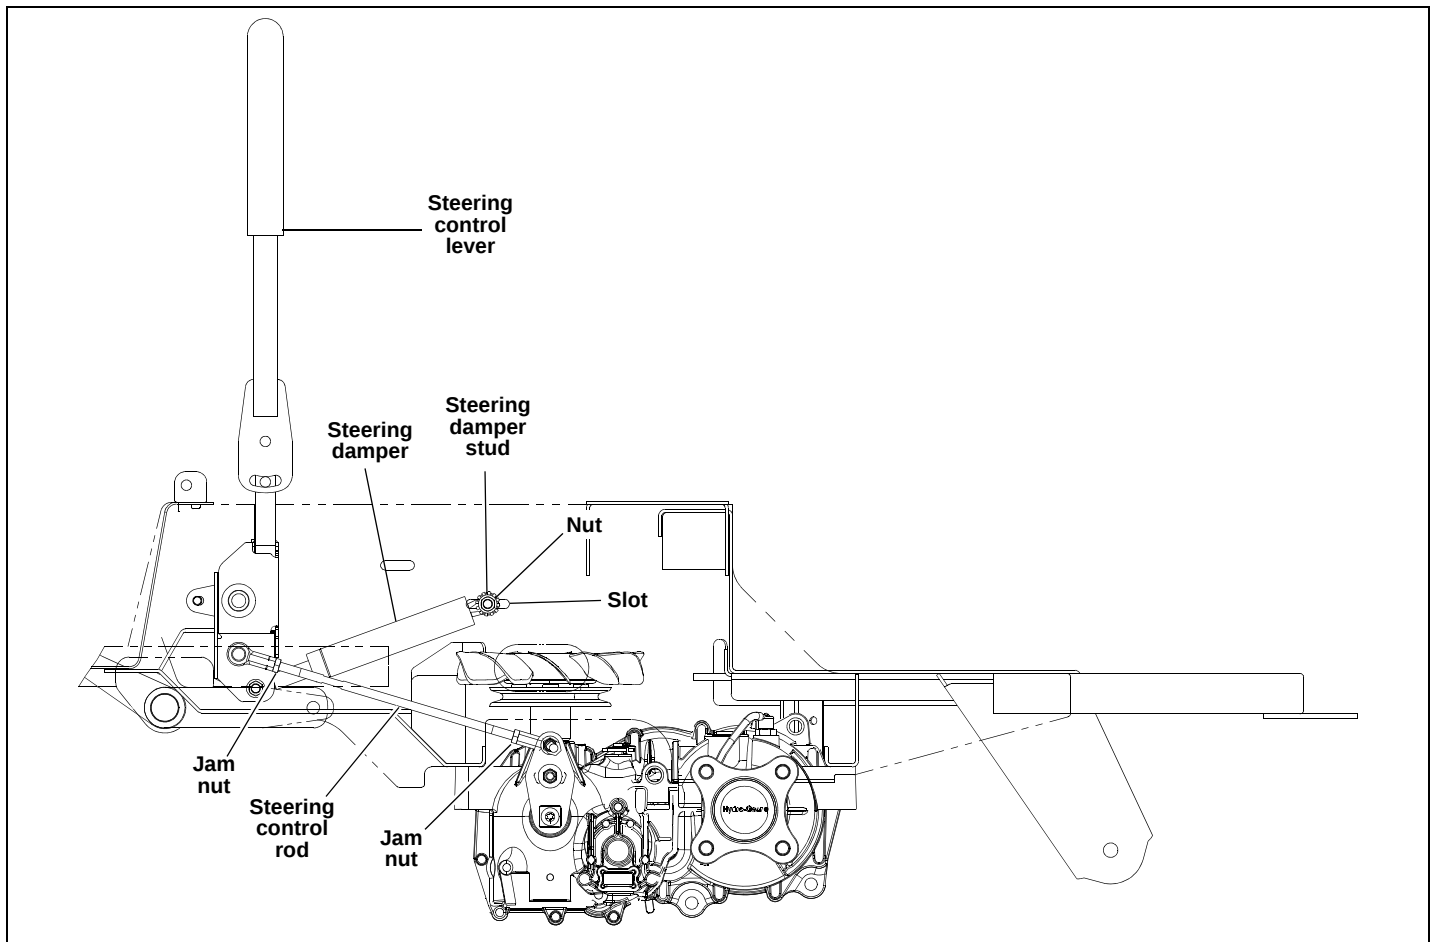

Figure 4-5
4. Loosen the jam nuts on each end of the steering control rod assemblies. Figure 4-5
6. Loosen the nuts on the rear steering damper ball studs. The dampers must be allowed to slide in the slots in the mower frame. Figure 4-5
8. Beginning with the right side of the mower, adjust the steering control rod so that the right side wheel starts rotating forward while holding the steering control lever in the neutral position. Now, adjust the steering rod back the opposite direction to the point when the wheel stops rotating. From that point, turn the steering rod back again $\frac{1}{2}$ turn. This ensures that the steering rod is adjusted so that the transmission control arm is centered in the neutral band of the transmission. Figure 4-5
Tighten the nut on the damper's rear ball stud. Once this nut is tightened, when the steering control lever is in the reverse position and then released, the steering control lever should return to the neutral position. Figure 4-5